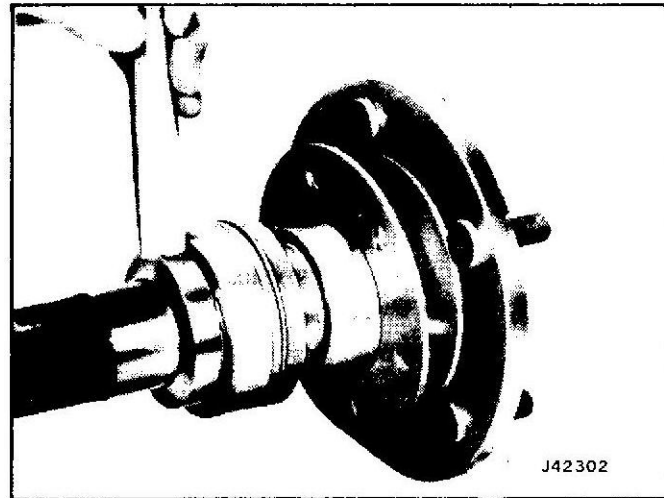
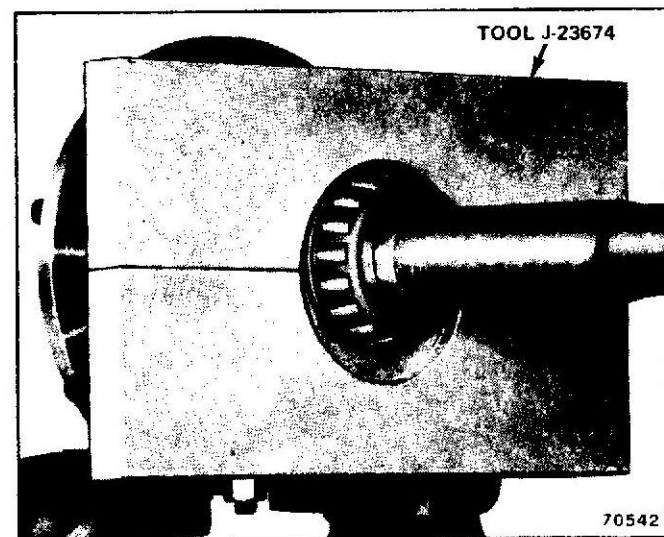

Fig. 3 Notching Bearing Retaining Ring — Cherokee-Wagoneer-J-10 Truck Axle
Fig. 4 Axle Shaft Bearing Removal — Cherokee-Wagoneer-J-10 Truck Axle
(3) Position a chisel over the drilled hole in the retaining ring and cut a deep groove in the retaining ring with the chisel. This will enlarge or split the ring allowing the ring to be removed from the axle shaft (See Fig. 3).
(4) Slide retaining plate and oil seal toward axle shaft flange to provide room for bearing removal tool between seal and bearing.
(5) Remove axle shaft bearing using arbor press and tool J-22912-01 or J-23674 (See Fig. 4).
(6) Inspect axle shaft bearing and seal surfaces for scratches. Remove scratches using crocus cloth.
(7) Install retainer plate on axle shaft.